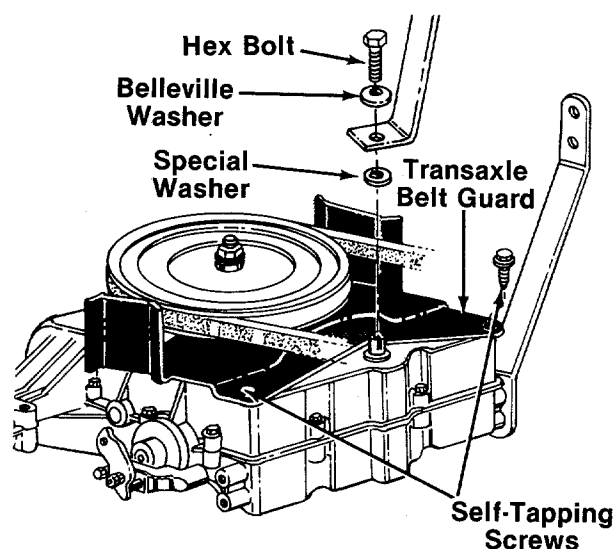

FIGURE 26.
7. Remove two self-tapping screws which hold the transaxle belt guard to the top of the transaxle. See figure 26.
8. Remove the transaxle shift lever by removing the hex bolt and belleville washer. Lift off the special "D" washer. See figure 26.